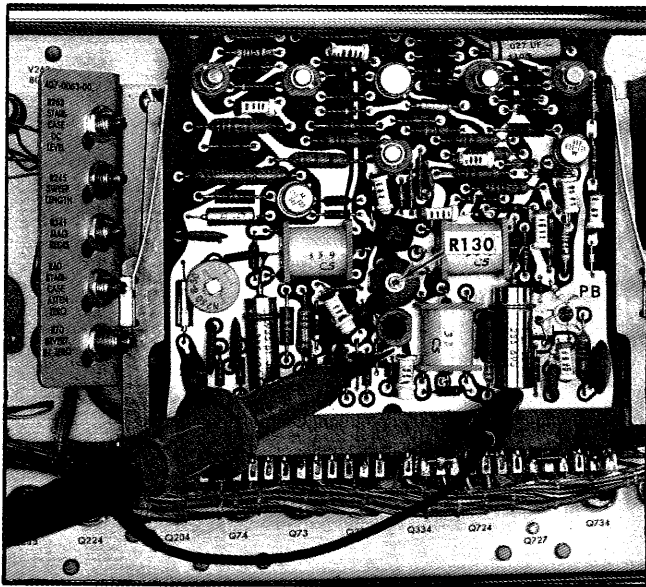
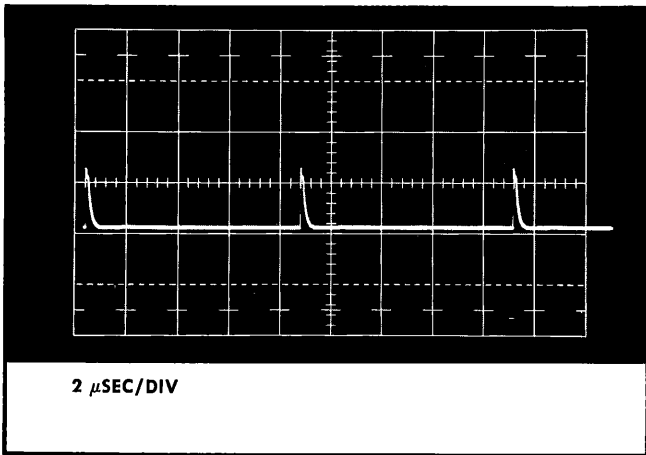

Fig. 5-11. Probe tip location for Q144 collector, and R130 location.
Fig. 5-12. Signal at Q144 collector—Step 5 a.
Connect the 10X probe to the Type W Channel A input connector. Connect the probe ground clip to the ground lead of C122 and touch the tip to the collector of Q144 as shown in Fig. 5-11.
5. Preliminary Adjust COMPARATOR LEVEL Control, R130 ❶
a. Turn R130 (see Fig. 5-11) fully counterclockwise using a non-conducting screwdriver (R130 metal screwdriver adjust slot is about -15 or -25 volts from ground). Slowly turn R130 clockwise until spikes appear on the test oscilloscope crt similar to Fig. 5-12.